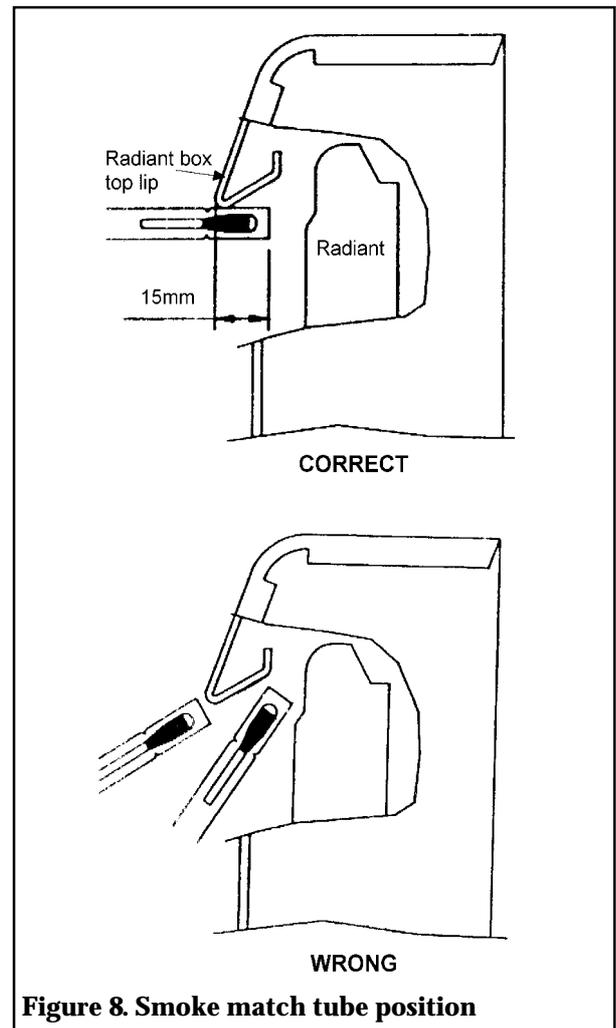

Figure 8. Smoke match tube position
5.2.4 Place the smoke match tube horizontally under the top lip of the radiant box and at least 50mm away from the sides of the radiant box. See figure 8.